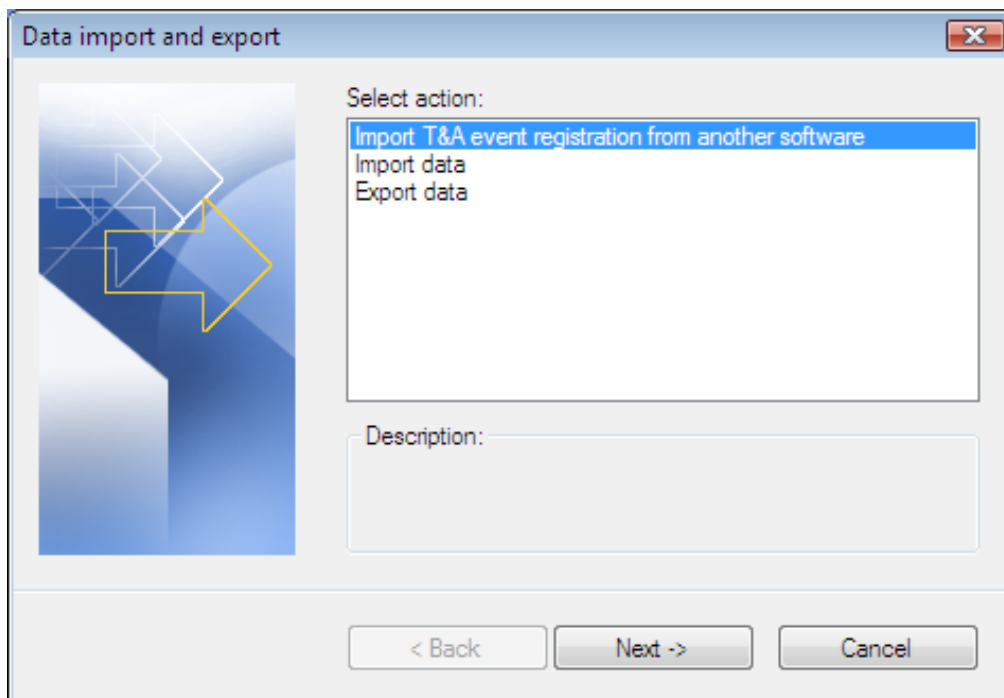

Figure 7. Data import and export wizard — step 1
Opens the data import/export wizard. When the user has selected **Import T&A event registration from another software** action, the wizard performs the following steps (shown in figures 7–9 below):
- ◆ Step 1. Select T&A data import/export action (Figure 7).